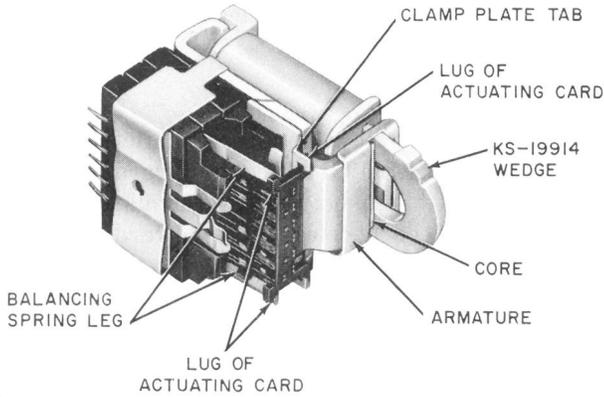

Fig. 11—Blocking BF-, BG-, BJ-, BL-, and BM-Type Miniature Wire-Spring Relays - Operated
Fig. 11 and 12—Block relays operated as covered in (1) and nonoperated as covered in (2) using the KS-19914 wedge. The wedge is a “U” shaped tool having two legs each terminating in beveled edges. In using the tool, the legs are deflected toward each other to permit the outer edge of each leg to pass the backstop side legs.
- (1) To block relays operated, deflect the legs of the KS-19914 wedge toward each other and insert them between the core and the